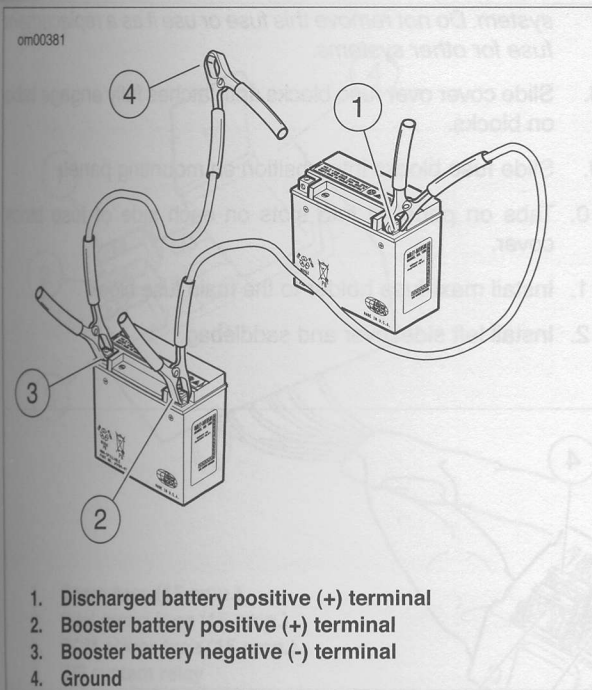

Figure 69. Jump Start Cable Connections
2. See Figure 69. Connect one end of a jumper cable to the DISCHARGED battery positive (+) terminal (1).
3. Connect the other end of the same cable to the BOOSTER battery positive (+) terminal (2).